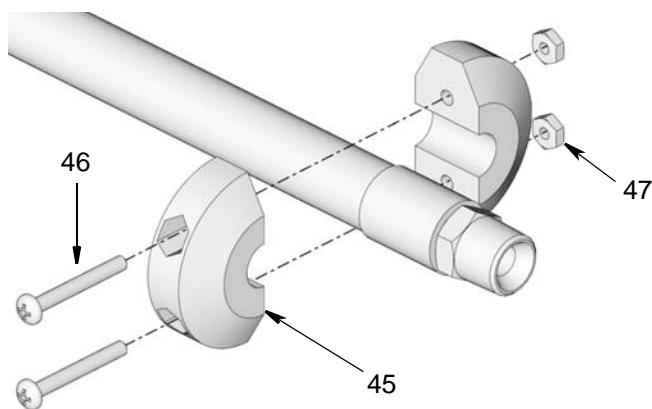

FIG. 7
5. Install the ball stop (45) near the end of the hose using screws (46) and nuts (47). Tighten nuts until the outside edges of the stop contact each other (FIG. 7).